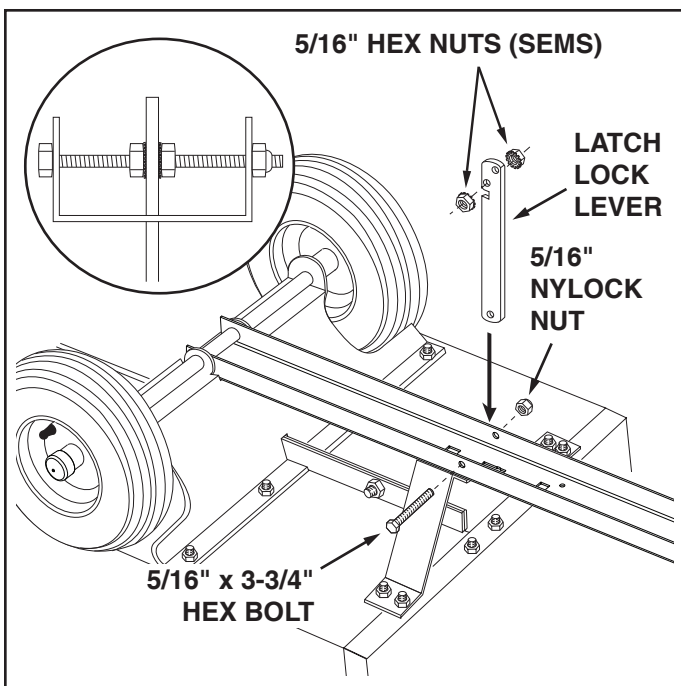

FIGURE 11
- Place the latch lock lever through the slot in the draw bar tongue. Assemble the 5/16" x 3-3/4" hex bolt through the tongue, the lever and two 5/16" hex nuts (SEMS) (one on each side of the lever). Assemble the 5/16" hex lock nut onto the end of the bolt and **tighten** so that the bolt can still rotate freely. **Tighten** the two 5/16" nylock nuts against the sides of the latch lock lever so that the lever is centered in the slot. See figure 11.